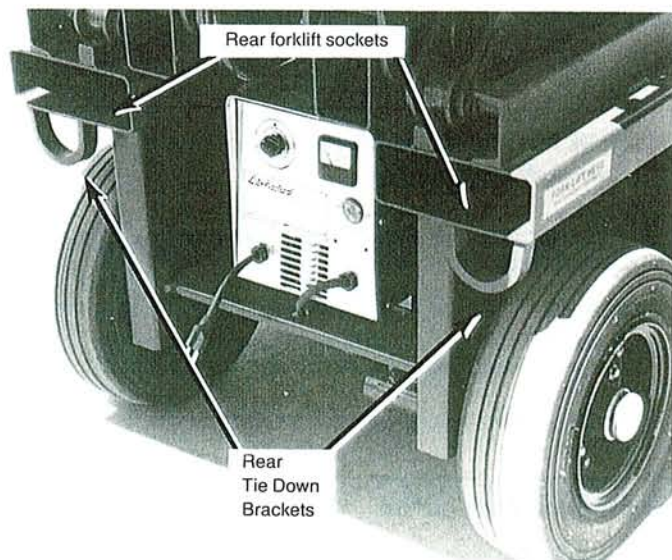

Figure 9. XL-19C
**NEVER PERFORM SERVICE ON WORK PLATFORM WHILE PLATFORM IS ELEVATED WITHOUT FIRST BLOCKING THE SCISSORS (See detail "A", Figure 9).**